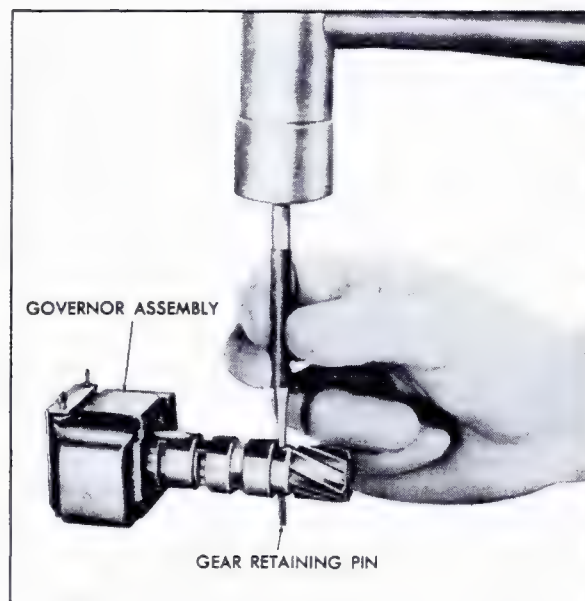

Fig. 7-63 Removing Governor Driven Gear Retaining Pin
1. Drive out governor gear retaining split pin using small punch, Fig. 7-63.